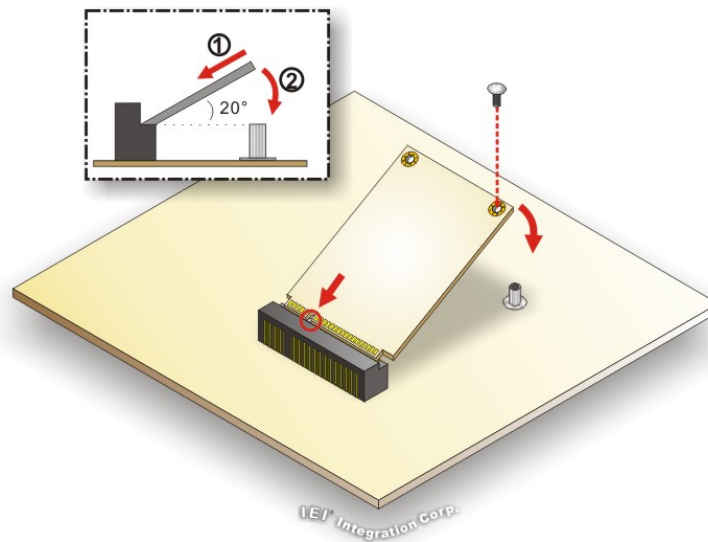

Figure 3-4: mSATA Module Installation
Step 4: Secure the mSATA module with the retention screw. Push the other end of the mSATA module down and secure the module with the previously removed retention screw (**Figure 3-4**).